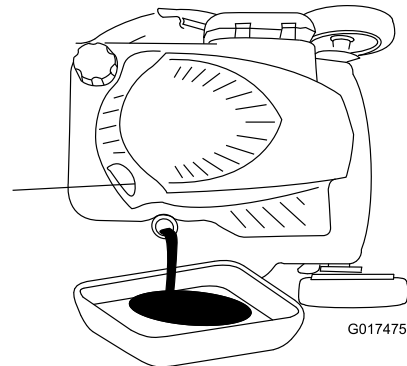

Figure 34
3. Tip the machine onto its side, with the dipstick down, to drain the used oil out through the oil-fill tube (Figure 34).